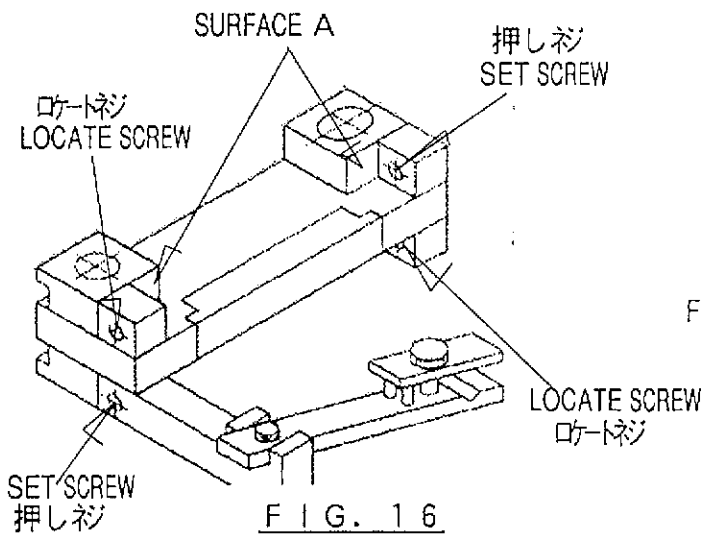

FIG. 16
- ① Remove the shear blade by removing mount screws and loosen the Set Screw.(FIG.16)
- ② Screw the shear blade to the fixture base. Screw loosely at this point of ass'y.
- ③ Turn the set screw until the shear blade touched the locate screw.
- ④ Make certain surface of the shear blade contact surface A of the fixture base when screw it.